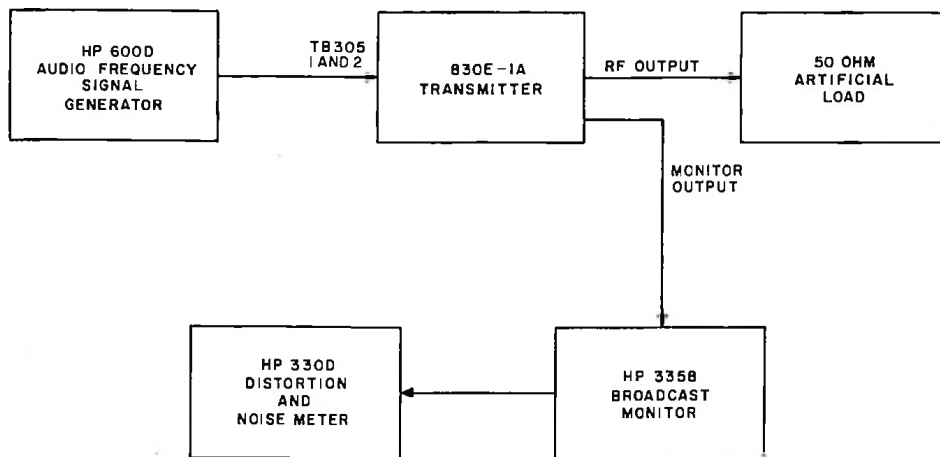

Figure 5-1. Distortion Test Setup
a. Refer to figure 5-1. Connect an audio frequency signal generator, such as a Hewlett-Packard Model